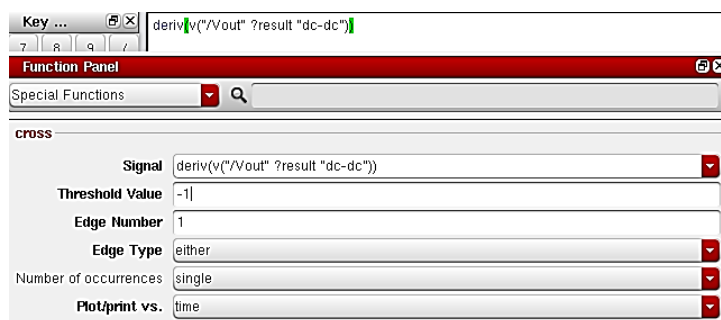

Figure 4.10: Calculator showing cross function for slope calculation
- (g) Now from the **special function**, select **cross**. Mirror the setting as shown in Fig.4.10.